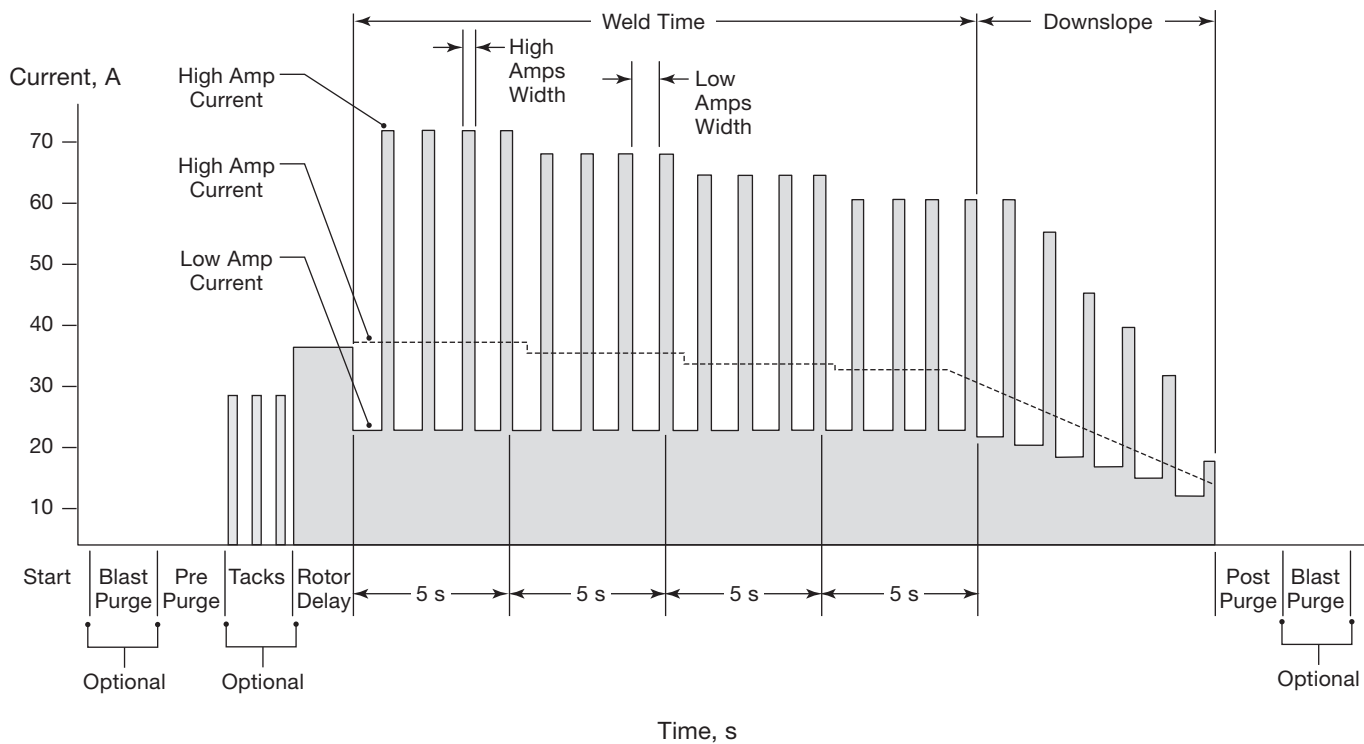

Fig. 56—Multilevel Weld Current Waveform
Weld parameters are the values used to create a weld procedure. The shape and duration of the output current waveform—a graphical representation of the weld procedure—is determined by the weld parameter settings. Figure 56 shows the waveform typical parameters generate during the course of a multilevel weld. The weld parameter settings are:
① This step, in conjunction with rounding the Weld Time to the nearest 0.5 second, prevents consecutive periods of low amperage output during the transition from one level to the next. This would be observed as skipping between weld levels. Note from Fig. 56, page 54, each level begins with the Low Amps period of the pulse cycle. The Weld Time multiplied by the Pulse Rate: